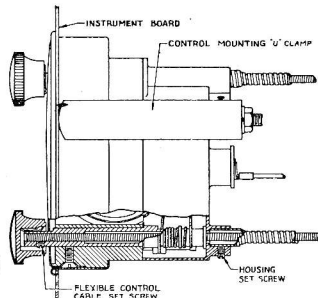

FIGURE 6
2. Fasten the control head in place by means of the "U" clamp and nuts. (See Figure 6).